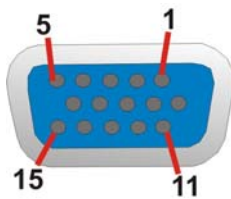

Figure 3-20: VGA Connector
- CN Pinouts:** See **Figure 3-20** and **Table 3-20**